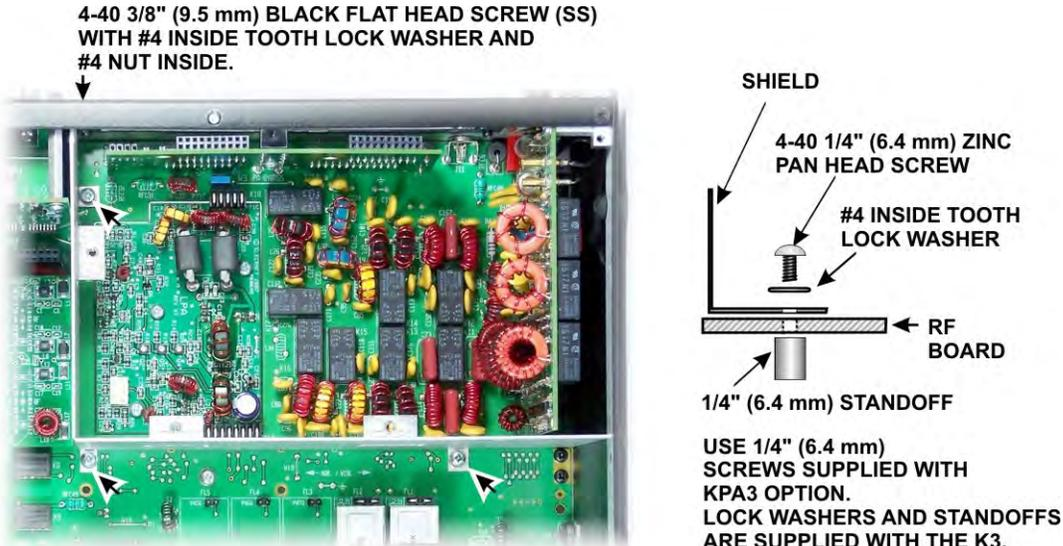

Figure 80. Attaching the KPA3 Shield.
□ Attach the shield to the RF board and to the rear panel as shown in Figure 80. The screws, washers and nut are in the KPA3 Option kit. The standoffs are part of the K3 kit hardware.